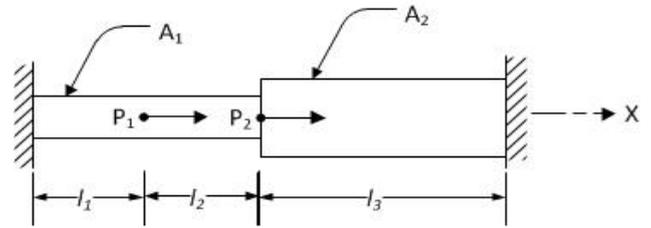

Figure: 2
- Q.4** (a) Determine the displacements of nodes and elemental stresses for the bar as shown in figure 2. **07**